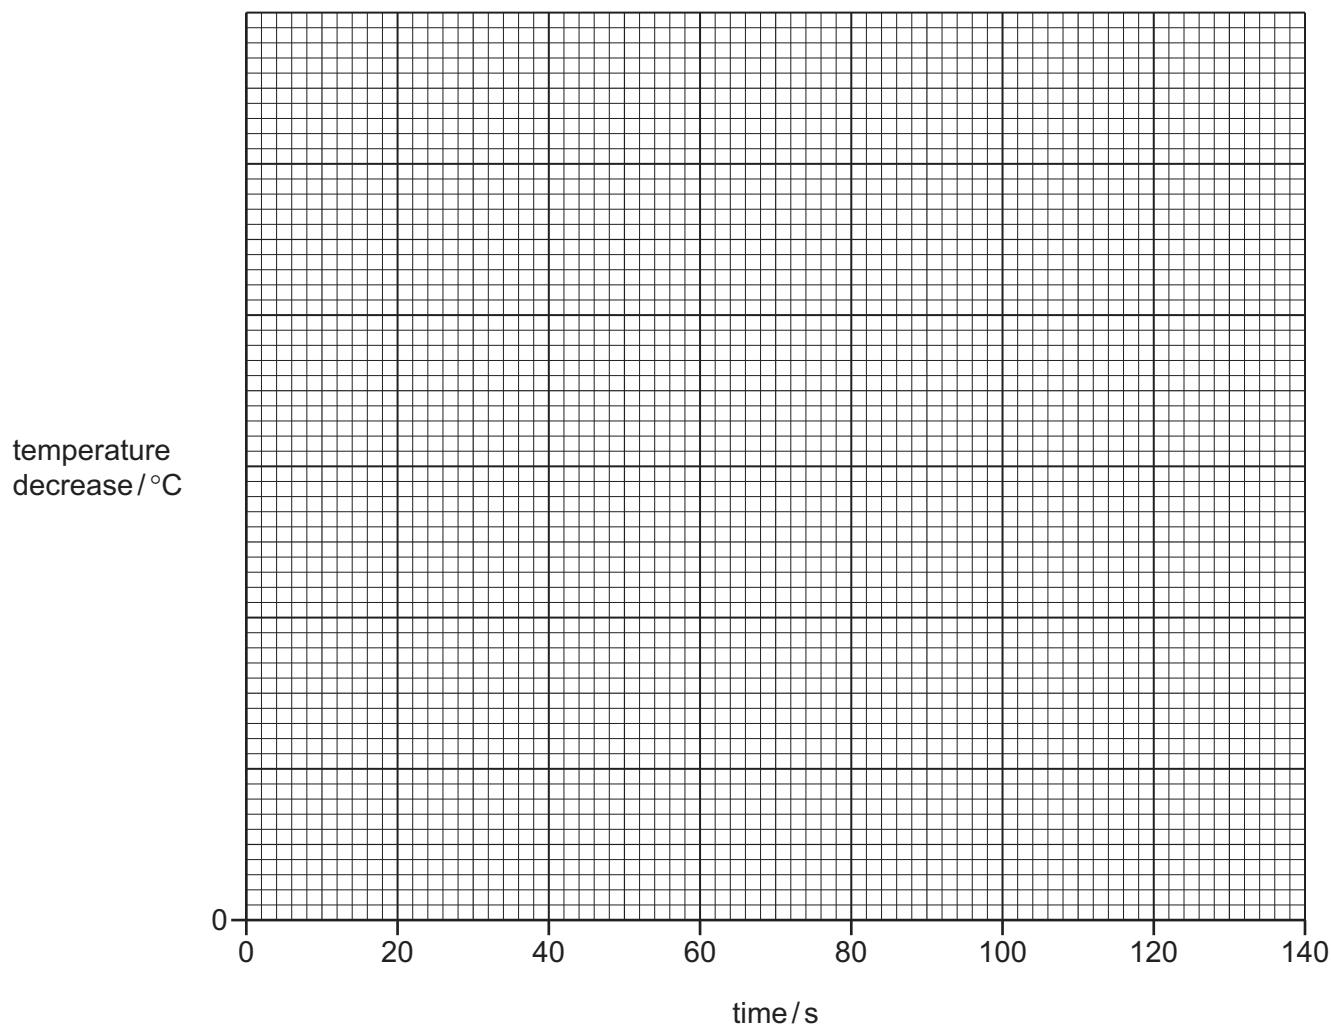

Fig. 1.1
- (b) Complete a suitable scale on the y-axis and plot your results from Experiment 1 and Experiment 2 on Fig. 1.1.
- (e) From your graph in Fig. 1.1, deduce the temperature decrease in Experiment 2 after 45 seconds.
Show clearly on Fig. 1.1 how you worked out your answer.